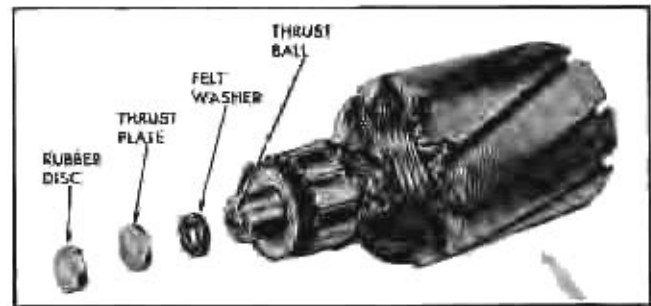

Fig. 11-93 Exploded View Armature Thrust Parts
5. Pull the armature out of the case and remove the brush springs, felt washer, thrust washer, thrust plate, and rubber thrust disc (Fig. 11-93) from the case assembly bearing as required.